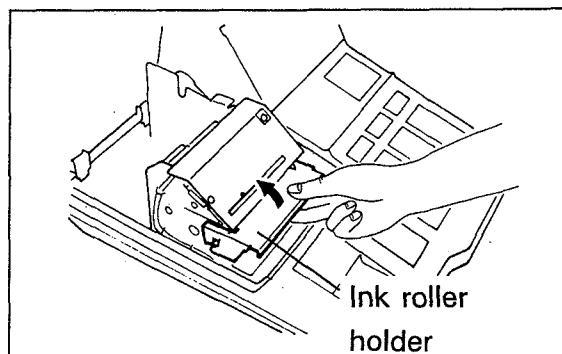

Fig.1
2. Lift up the ink roller holder in the direction of the arrow to remove. (Fig.1)